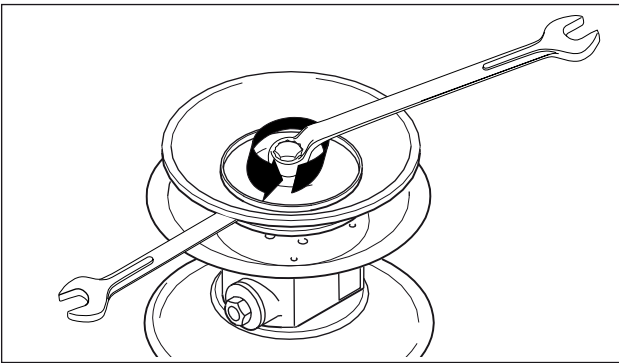

Fig. 10: Loosen the diaphragm plate. (not used for DEPA E4® compound diaphragm.)
- Loosen the outer diaphragm plate and take it off with the diaphragm (Fig. 10).